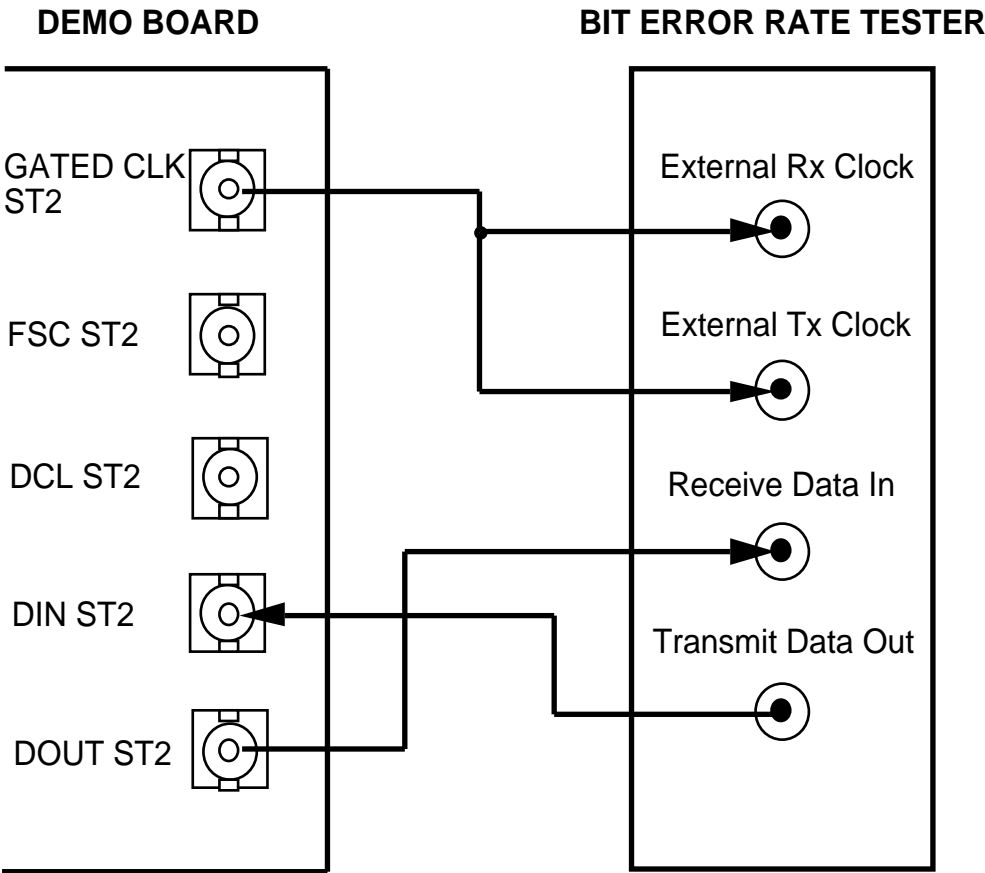

Fig 2.5 : Gated Clocks Timing Diagram
This example shows how to connect a bit error rate tester to the MC145574EVK. Refer to Figure 2-5 for connection details.
- (1) Make the following connections to the Bit Error Rate Tester as shown in Figure 2-5.